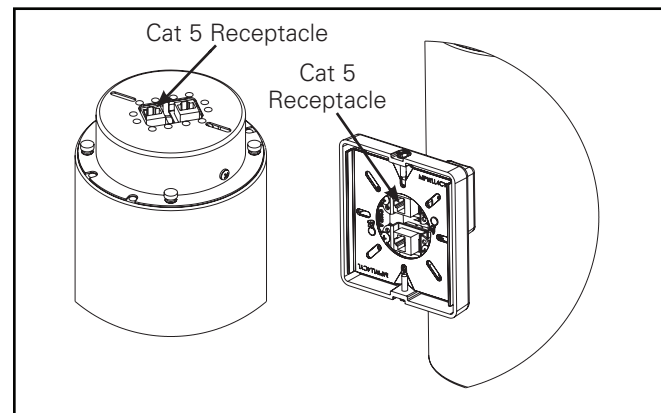

Figure 8.
1. Locate Cat 5 receptacles. For ceiling mounted cylinders receptacles will be in the cylinder top, and wallmounted cylinders will have the receptacles will be in the wall mount arm. (Figure 8.)